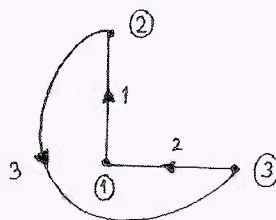

Fig. Q9 (a)
- 9 a. Form  $Z_{bus}$  using building algorithm of the power system shown in Fig. Q9 (a). Self impedances of the elements are given in Table Q9 (a). Take element-3 as link and bus-1 as reference bus. (08 Marks)